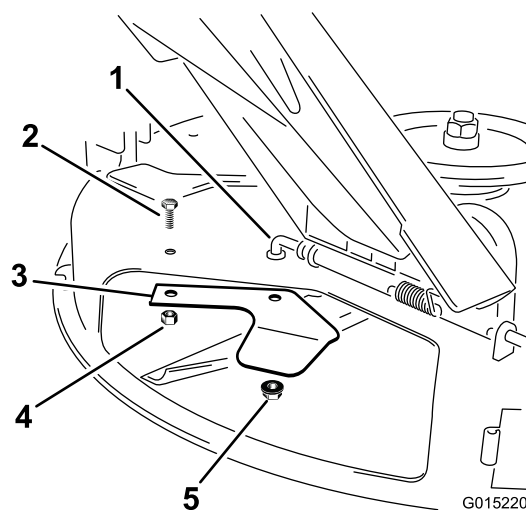

Figure 19
2. Remove the locknuts and bolt securing the cutoff baffle to the underside of the mower deck (Figure 19). Retain all the fasteners.